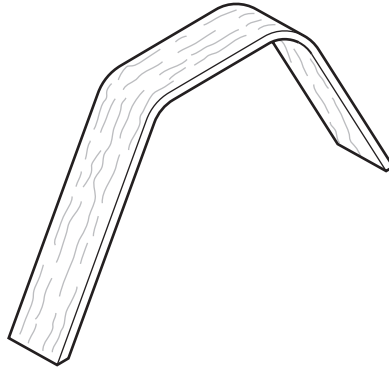

Fig. 8.1
- 8 Fig. 8.1 shows a chair leg made from a length of hardwood 100 mm wide × 20 mm thick. The chair leg has been formed by steam bending.